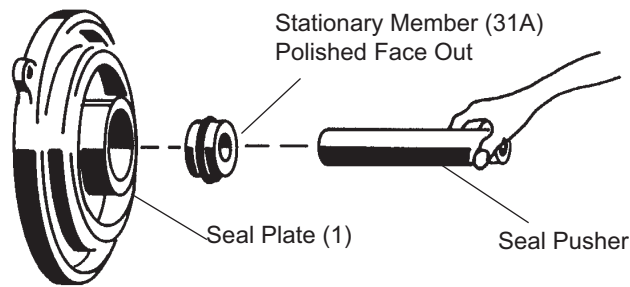

FIGURE 6
Seal - Clean and oil seal cavities in seal plate (1). Lightly oil (**DO NOT use grease**) outer surface of stationary member (31a). Press stationary member (31a) firmly into seal plate (1), using a seal pusher (see parts list- Seal Tool kit), nothing but the seal pusher is to come in contact with seal face (see Fig. 6).